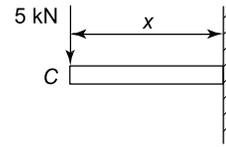

Figure 7.11
**For the range  $C$  to  $A$ ,** see Figure 7.11.
From Figure 7.11, at any distance  $x$ ,